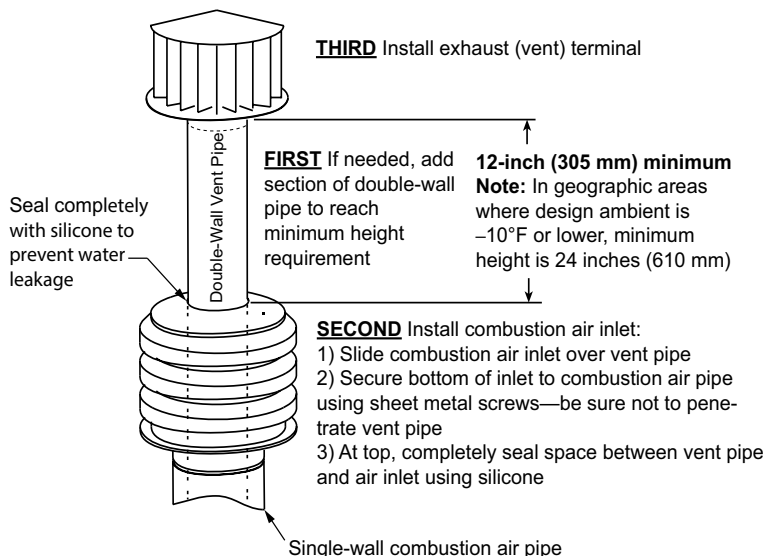

Figure 11. Combustion Air Inlet and Vent Terminal
8. Install combustion air inlet (see Figure 11):